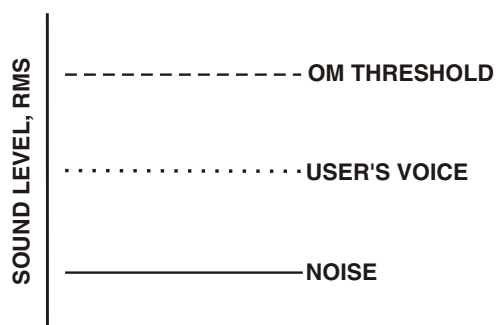
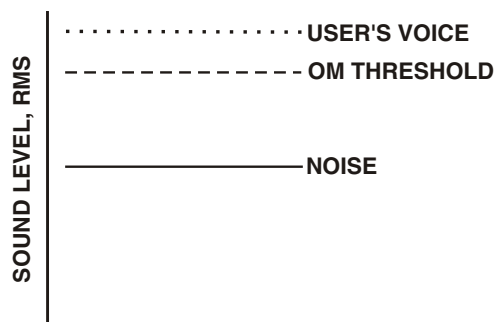

Figure 33
Figure 34
The microphone gain controls on the base station and belt-pack are set to mid-levels by the factory. In most cases this setting will work fine and only on loud speech will the overmodulation (OM) indicator light. However, in environments where the background noise is loud or the user has a strong/quiet voice, the gain control will need to be adjusted. In Figure 33 the gain is set correctly. The user's root-mean-square (RMS) sound level is well below the OM threshold and only on peaks does his or her voice flash the OM indicator light.
Figure 34 displays the same gain setting as in Figure 33 but brought into a high noise environment. The user's voice now lights the OM indicator all the time he or she speaks due to the higher noise plus the user speaking louder. The result on the system is distortion on louder speech. The microphone gain must be reduced. The same applies to a user with a powerful voice. If someone sets the system mic gain to their voice and user has a much stronger voice, then the gain will need to be reduced, even if the background noise is the same.